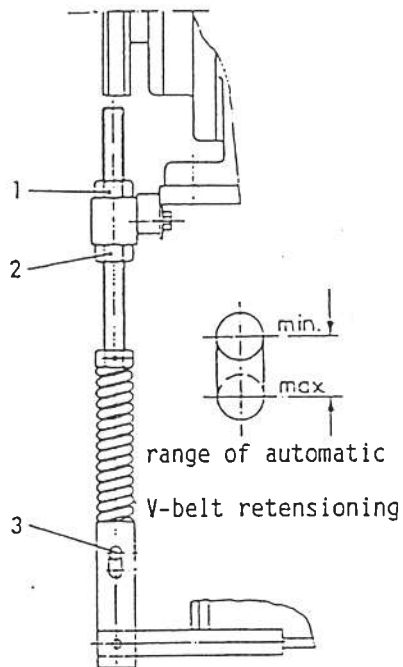

Figure 23
- Turn adjusting hex nut (2, Figure 23) downwards.